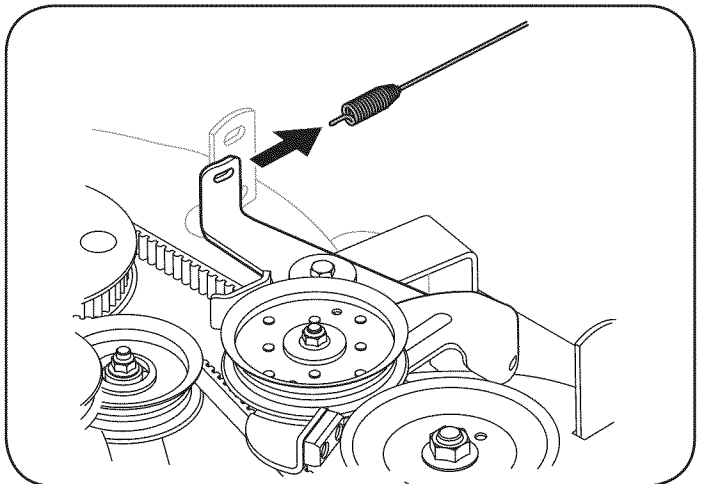

Figure 16
15. Unhook the drive spring cable from the idler arm assembly, Figure 16.